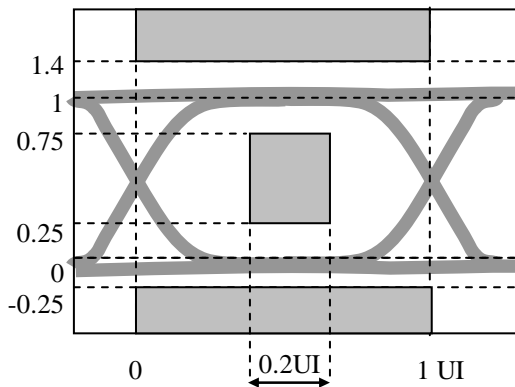
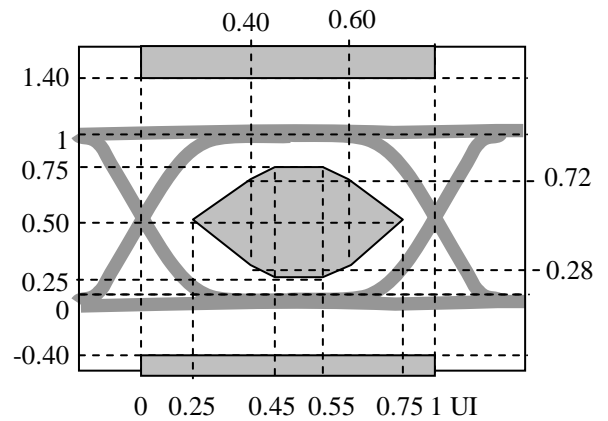

Fig. 6.1.1 MASK for GR-253/G.691
Fig. 6.1.2 MASK for IEEE802.3ae
*1 : Eye mask compliance is shown in Fig.6.1.1 and Fig.6.1.2.